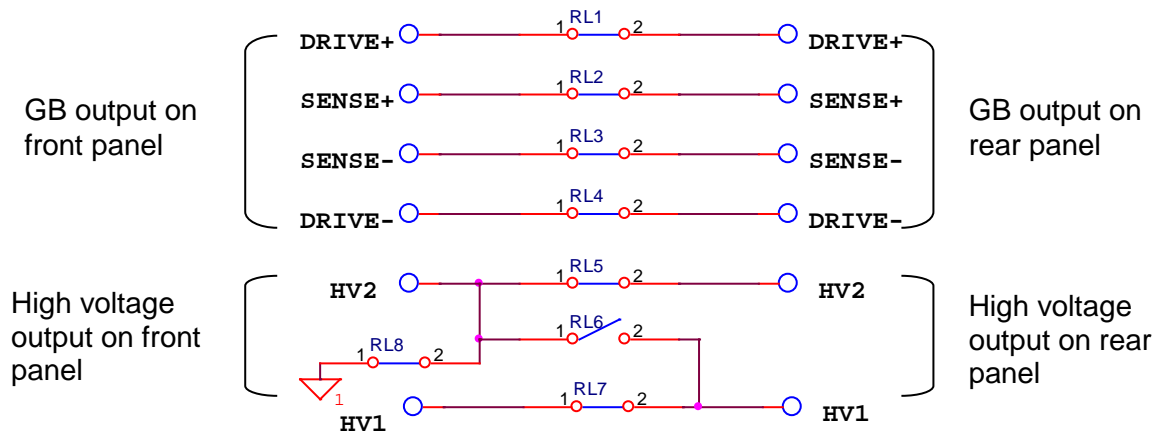

Figure 4-9
- ii. When Channel 3 is set to H and HV1 terminal on rear panel is set to high voltage output, in the meantime GFI setting can't set to FLOAT. The connection diagram of front panel terminal and rear panel terminal is as *Figure 4-9* shown: